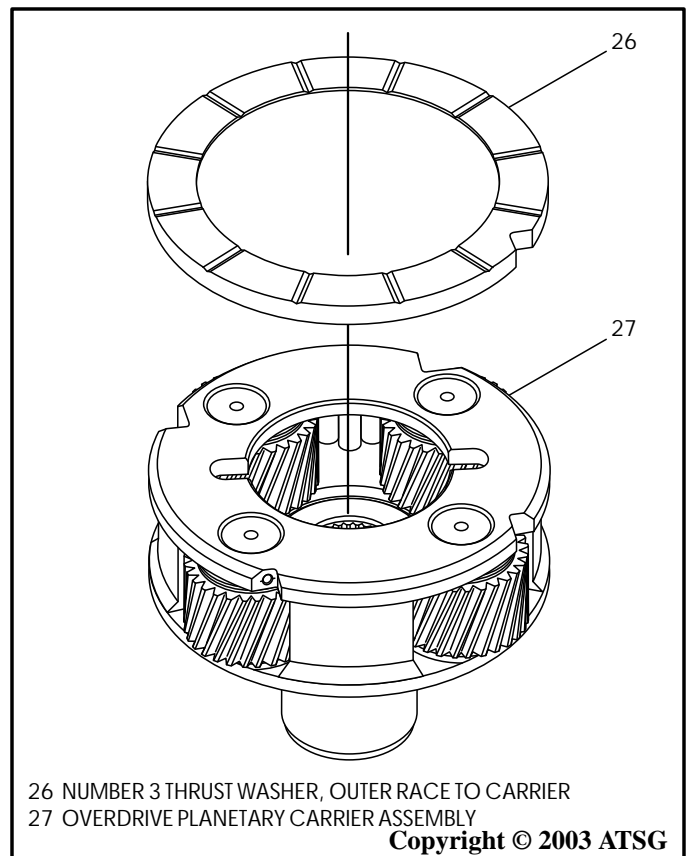

Figure 143
7. Install number 3 thrust washer onto back of the overdrive planetary carrier and retain with a small amount of Trans-Jel® (See Figure 143).